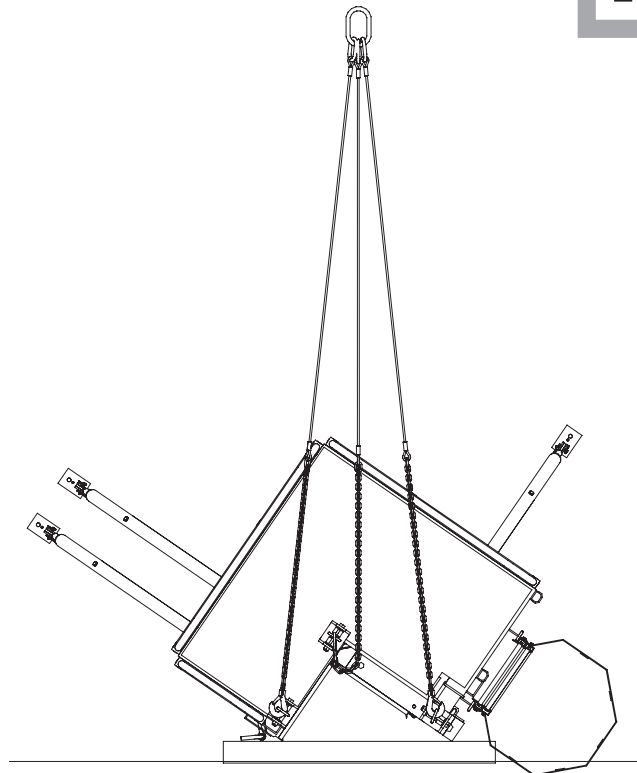

Fig. 16
1. Attach 3-sling lifting gear to crane eyes, lift formwork to a vertical position and transport to place of use. Fig.16